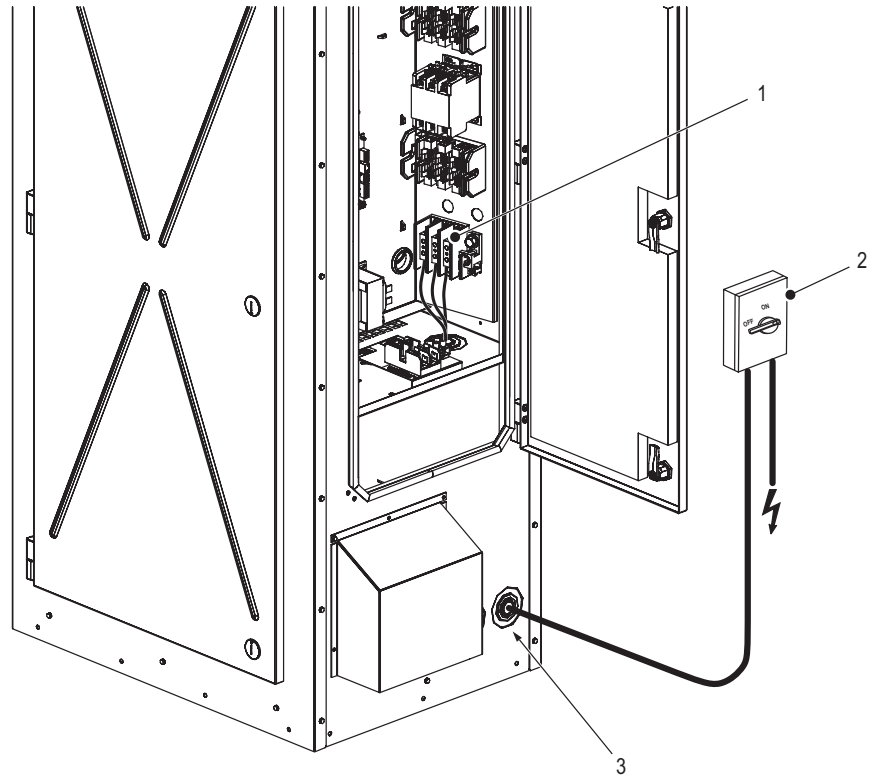

Figure 17: Nortec EL/RS Outdoor Humidifier Power Connection
- All electrical cables MUST enter the side or bottom of the unit through minimum IP54-rated cable glands (supplied by others) to ensure that the IP54 rating for the unit is maintained. Knockouts are available on the side and bottom of the unit for routing the cables into the unit – refer to Figure 17 on page 39.
- The power cable must be connected to the terminal block (X0). Refer to Figure 17 on page 39 and "Outdoor Enclosure Wiring Diagram" on page 40.